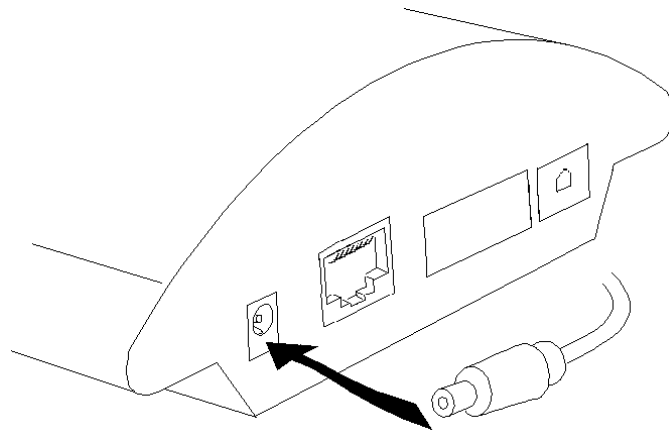

Fig. 6 – Supply Adapter Connection
- Now plug the supply adapter into a mains socket and connect the adapter connector to the gateway, see Fig. 6. The status indicators indicate the proper operation. For their meanings refer to Subs. 2.9.